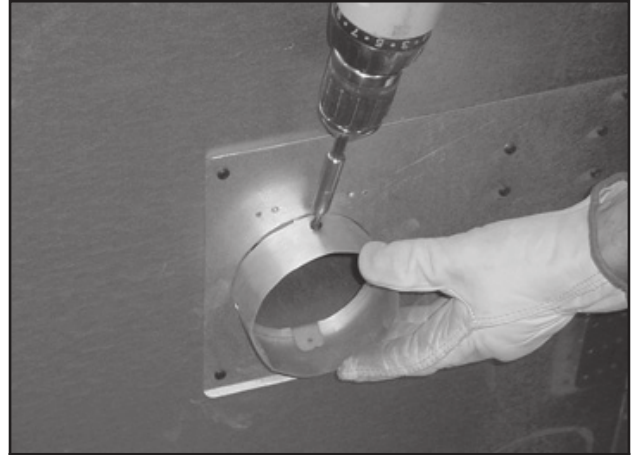

Figure 3.20 Attaching Outside Air Kit Collar
- Position ring over tabs and screw in place. See Figure 3.20.